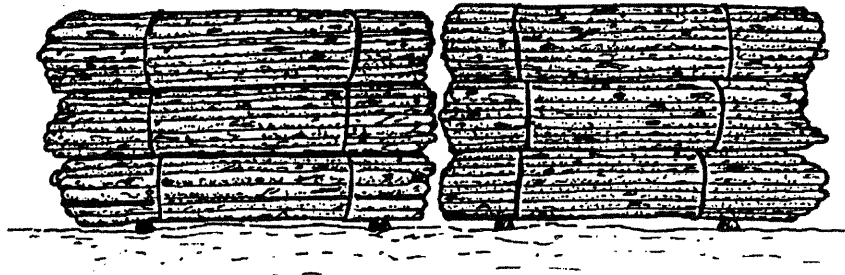

Fig 4-20
1. If your log bundles are not tapered, stack the bundles directly on top of each other in vertical piles as shown in Fig. 4-20.